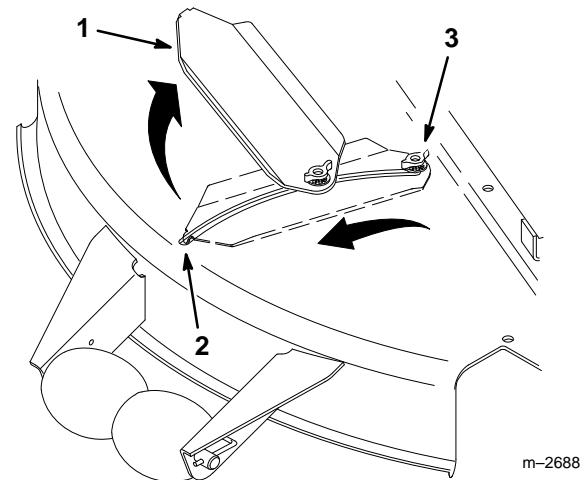

Figure 29
1. Discharge Deflector	3. Locknut (2)
2. Hex Head Bolt (2)	4. Flat Washer (2)
5. Loosen the wing nut on the front cover shaft (Fig. 29).
6. Lift the tab on the end of the slot cover up and out of the slot in the deck, then rotate the slot cover 180 degrees (Fig. 29).